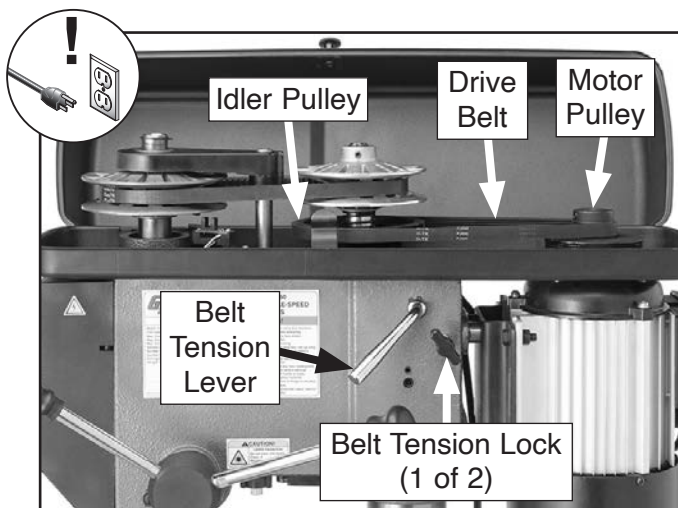

Figure 41. Spindle speed range adjustment components (T33960 shown).
3. Loosen (2) belt tension locks (see **Figure 41**).
4. Rotate belt tension lever clockwise to take tension off of drive belt (see **Figure 41**).